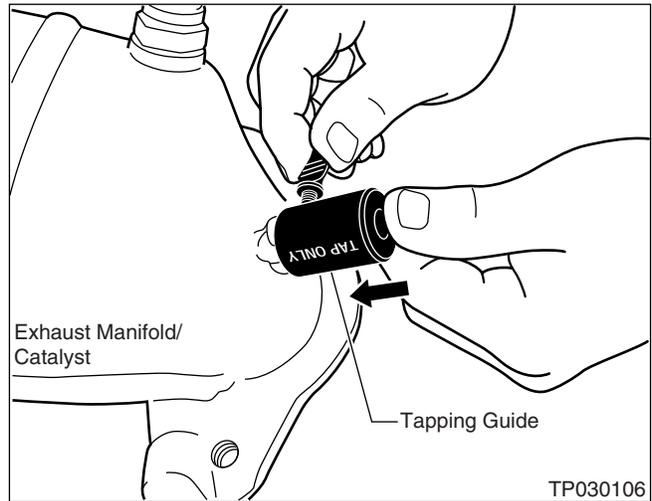

Figure G4
5. Install (push down until fully seated) and tighten the Tapping Guide (identified by "TAP ONLY") onto the drilled-out "boss" (see Figure G4).